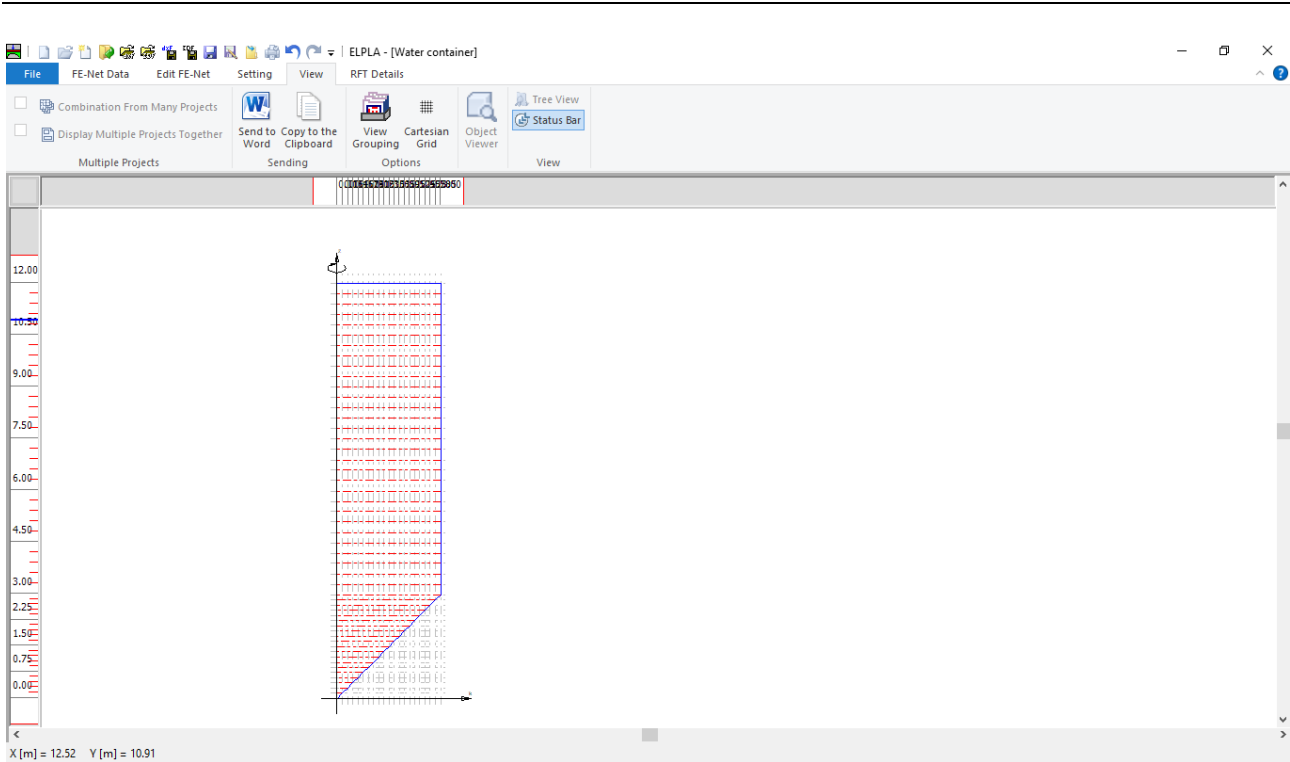

Figure 10.9 Generated FE-Net
Click "Finish" in "Analysis of rotational shell" wizard, the generated FE-Net appears Figure 10.9.
- Choose "Save" command from "File" menu in Figure 10.9 to save the data of the FE-Net
- Choose "Close" command from "File" menu in Figure 10.9 to close the "FE-Net" window and return to *ELPLA* main window